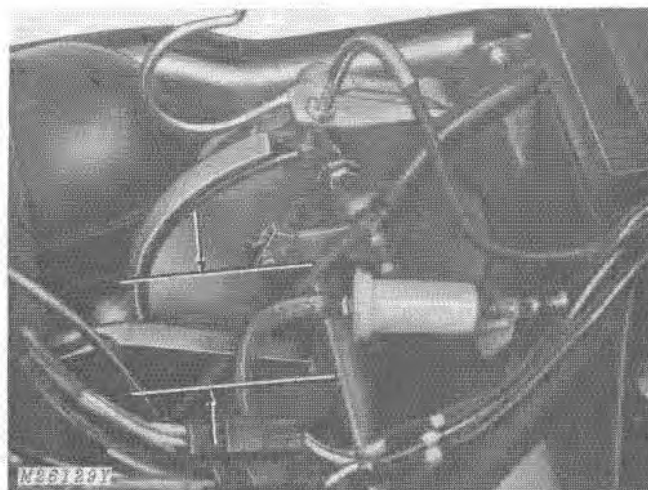

Fig. 5-Adjusting Brake Cable and Arm
1. Loosen or tighten jam nuts on brake cable until arm is parallel with tunnel, Fig. 5.